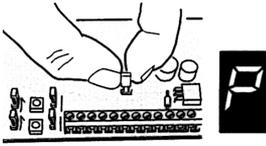

Figure 4
- 1 Remove the program jumper. The channel shows P. See Figure 4.
1. Remove the program jumper. The channel shows P. See Figure 4.